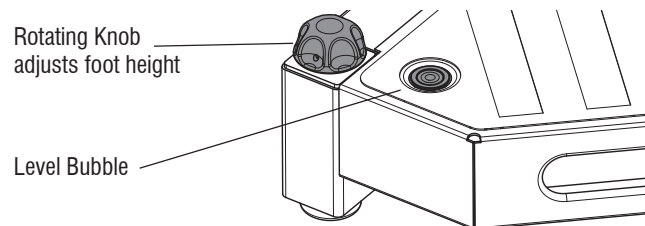

Figure 3-8. Detail view of level bubble
The base of the FS80 machine consists of two fixed wheels and two adjustable feet, for leveling and stabilizing the base within 2 degrees of level from front and back only. Prior to operation the adjustable feet are to be engaged to a point where the base is level as seen on the level bubble (Figure 3-8).
4. Turn the adjustable feet until the level bubble is centred (see Figure 3-8.)